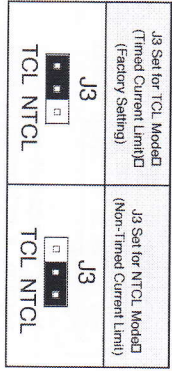

FIGURE 17 – CURRENT LIMIT MODE SELECTION
C. Timed and Non-Timed Current Limit Selection (J3) – Jumper J3 is factory set to “TCL” position for timed current limiting operation. See Figure 17. For non-timed current limiting operation, set Jumper J3 to “NTCL” position.